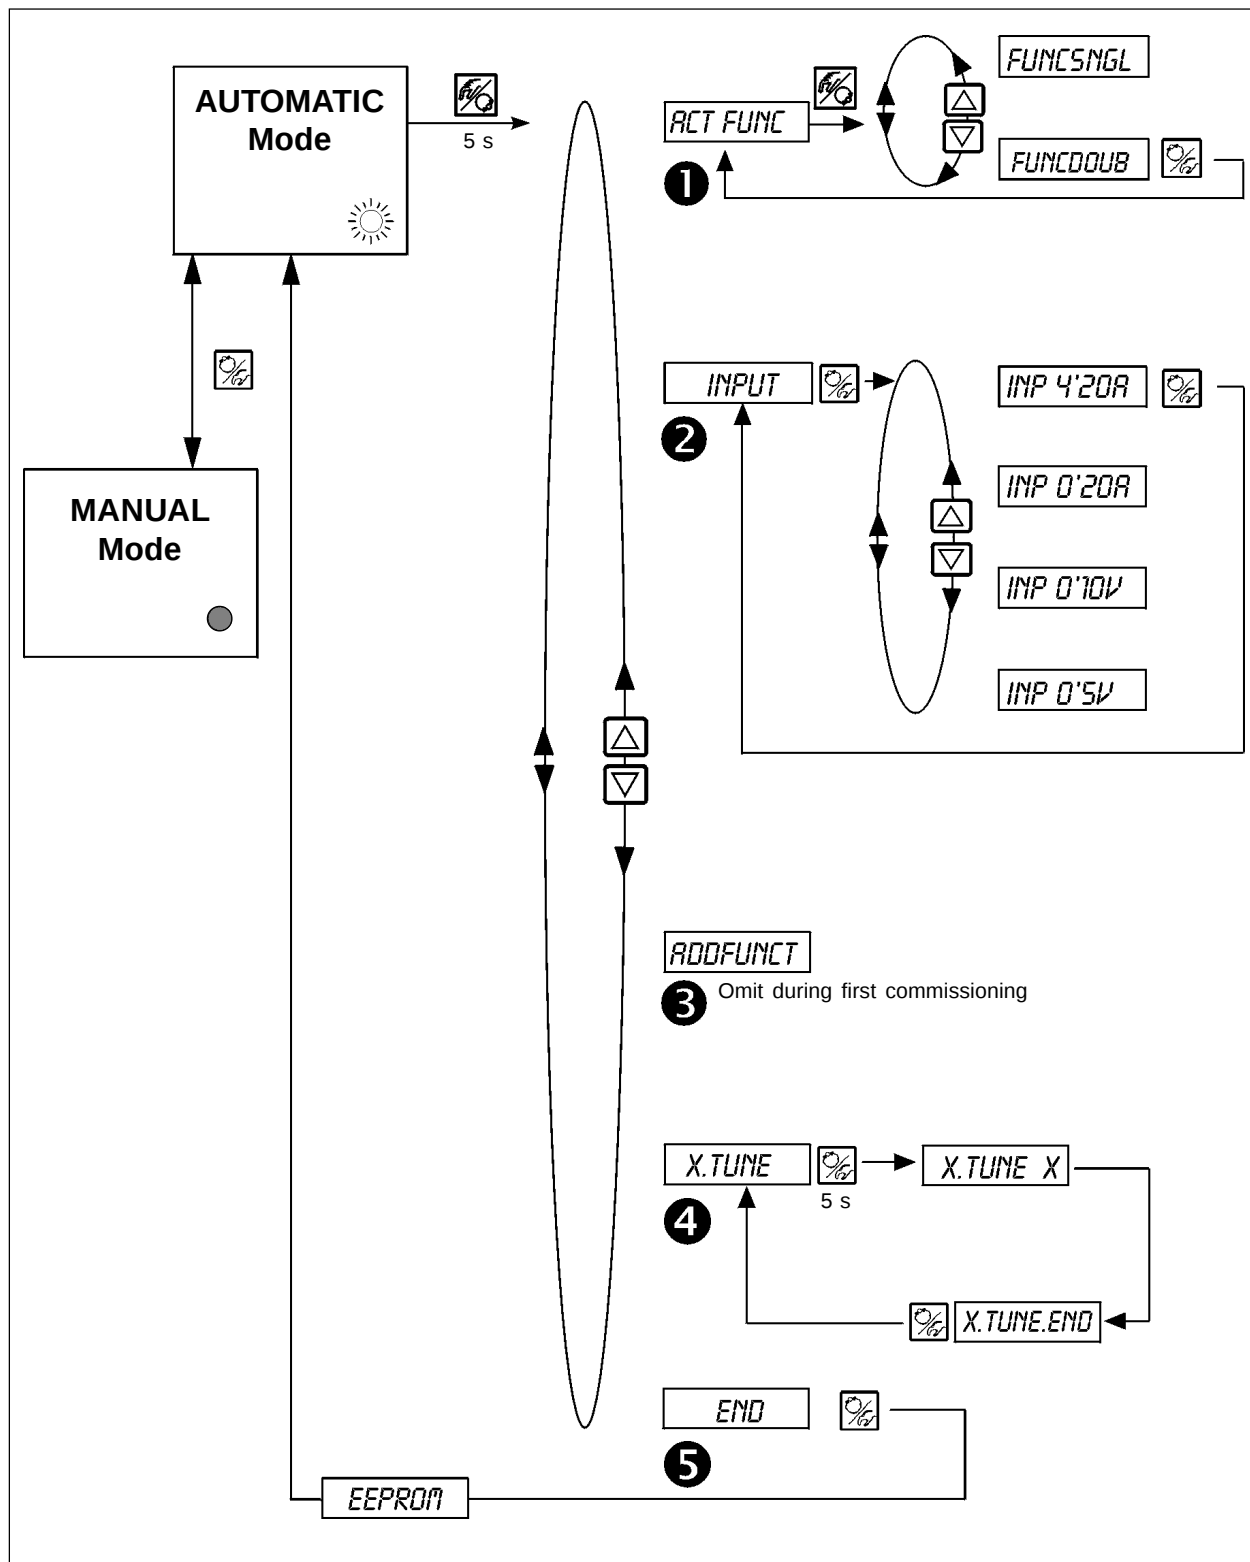

Fig. 6.3: Setting within the main menu
**Description of the overview (Fig. 6.3):**